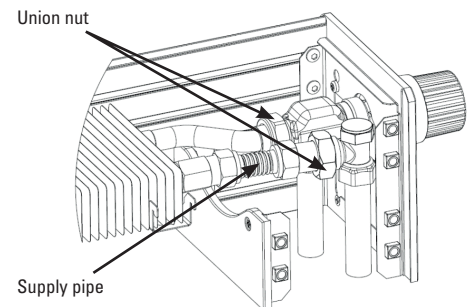

FIG. 5a: Only for models SUF1, SUF2, SPF0
- › For models SUF1, SUF2, SPF0 – connect the heat exchanger with the control screw fitting using the supplied flexible hose, Fig. 5a.